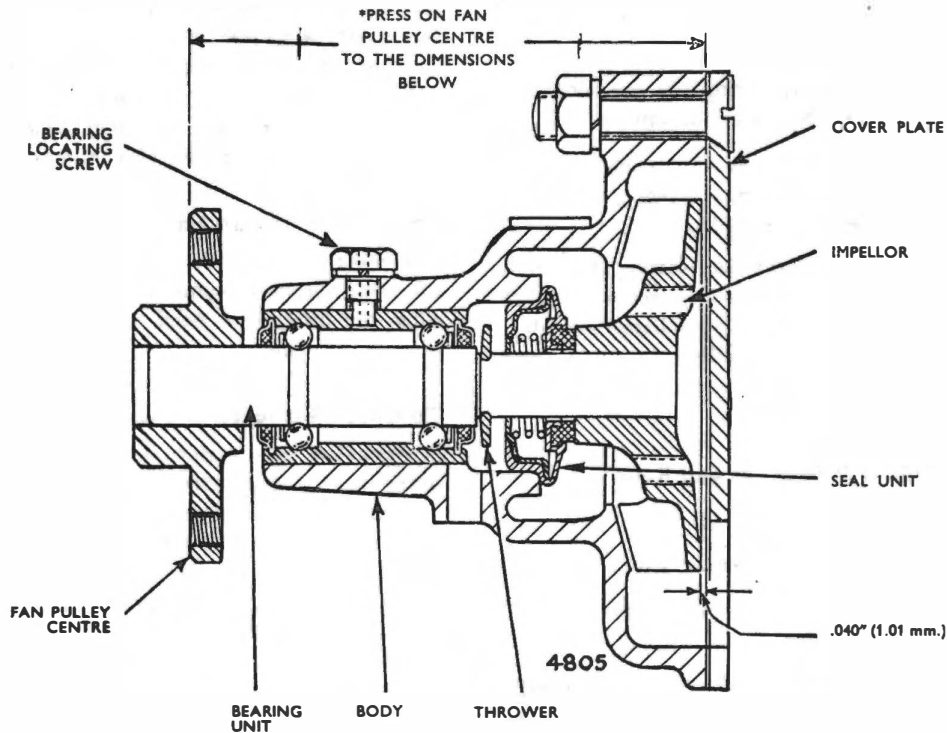
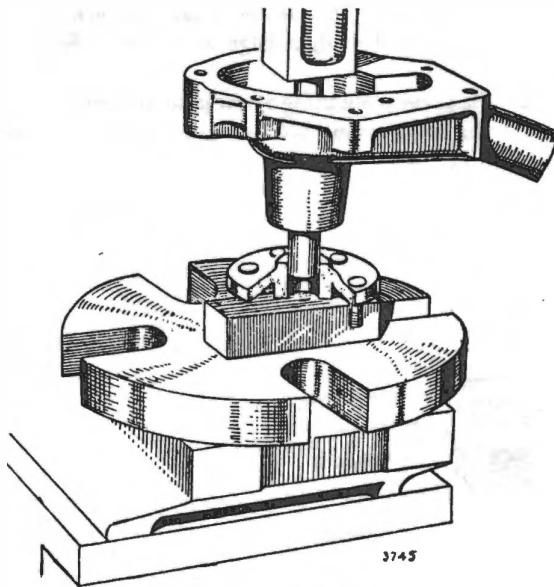
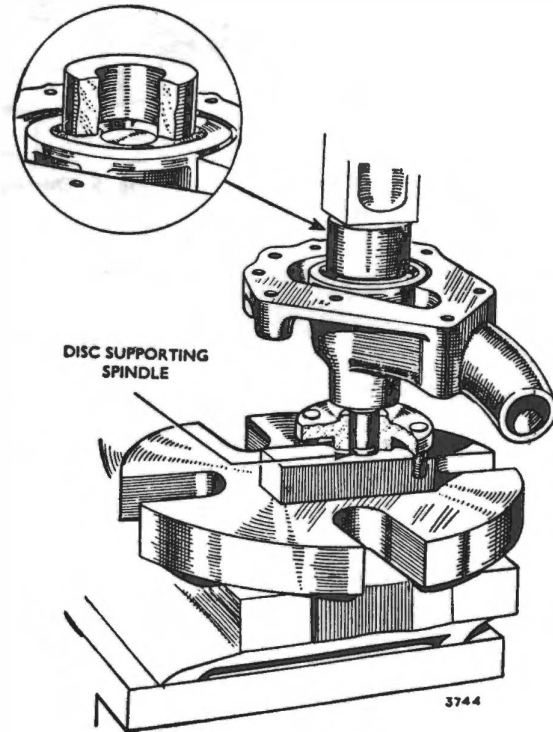

Fig. 2. Sectional view of water pump
Fig. 3. Pressing on fan centre
Fig. 4. Pressing on pump impeller
A sectional view of the water pump is shown in Fig. 2. The impellor and fan pulley centre are a press
1. Remove bearing locating screw, see Fig. 2, and the countersunk bolt and nut holding on the
3. Place the fan pulley centre on a press table and press the larger diameter of the spindle into the pulley centre, as illustrated in Fig. 3 until the front face of the pulley is positioned as shown by the dimension in Fig. 2. This position ensures the correct alignment of the fan pulley to the crankshaft pulley.
Place the water seal on the smaller diameter of the spindle with the carbon face towards the back face of the water pump, and push the seal firmly into the housing. See Fig. 2.
5. Support the pump spindle end inside the fan pulley centre as shown in Fig. 4 and press the impellor on to the shaft until the impellor is in the position shown in Fig. 2. It should be noted that a clearance of .040" (1.01 mm.) should exist between the outer face of the impellor and